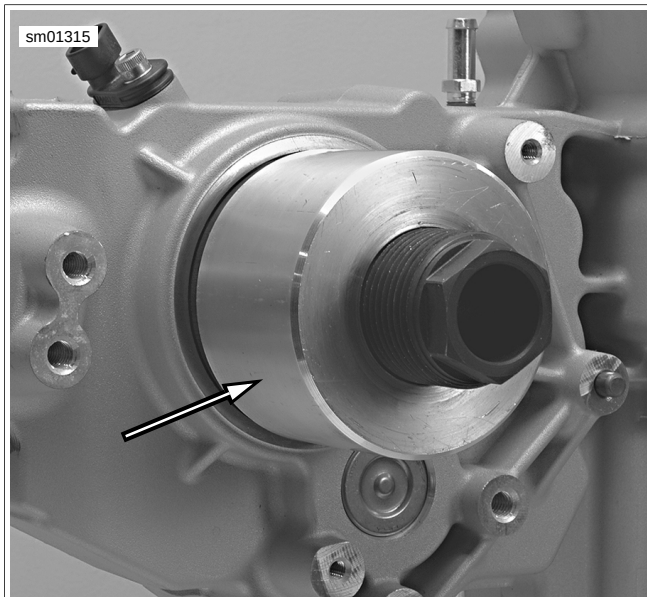

Figure 5-89. Place Installer over Adapter (typical, XL model shown)
7. See Figure 5-89. Slide INSTALLER (Part No. HD-47856-1) over adapter until cupped end of installer is flat against seal.